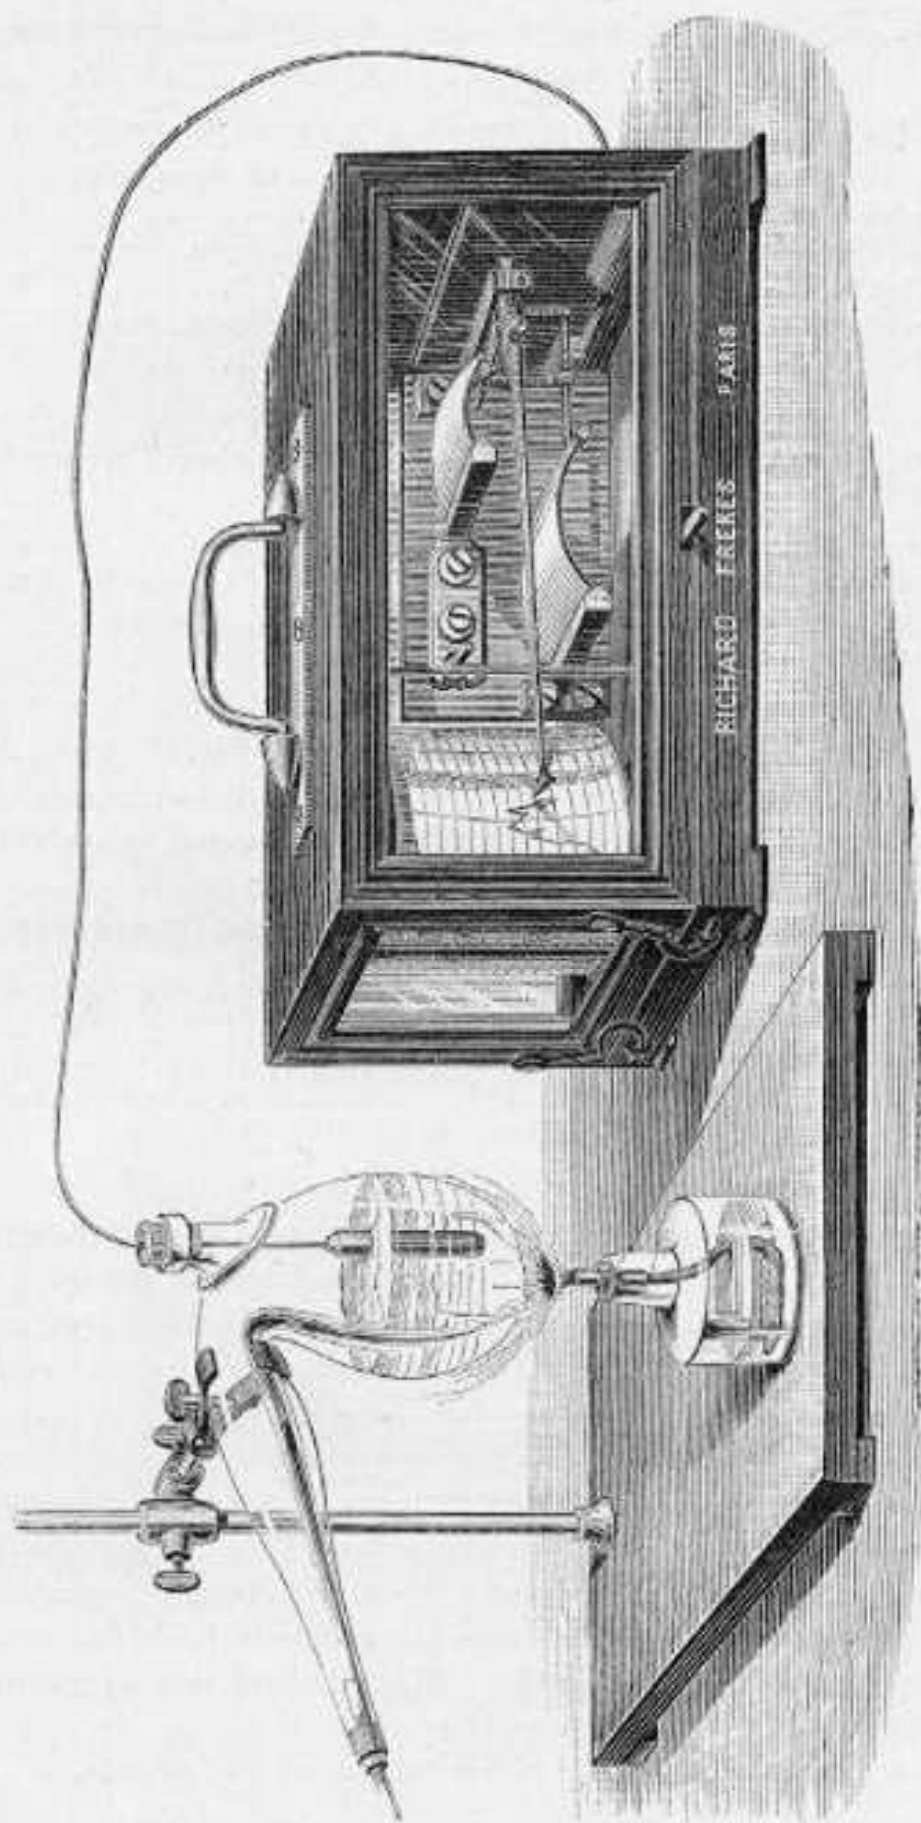

FIG. 10.
**Recording Compensated Thermometer.** Fig. 10. This is very sensitive and particularly suitable for air stoves, in which the variations of temperature may be very rapid. The indications can be conveyed by a pliable tube (see Fig. 10), or by straight rods.